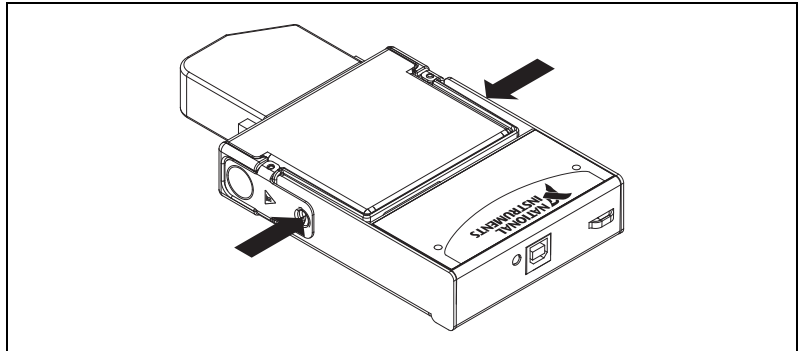

Figure 6. Locking Module into Place
5. Press firmly on the connector side of the NI 9263 module until the latches lock the module into place, as shown in Figure 6.